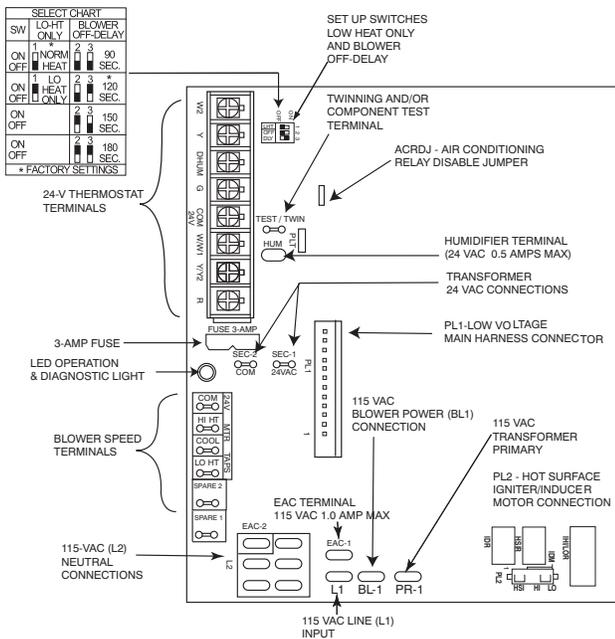

Fig. 14 - Two-stage Furnace Control
6. Turn Setup Switch SW1 (LHT) on furnace control ON (see Fig. 14).
1. Verify SW1 (LHT) on furnace control is turned "ON". See Fig. 14.